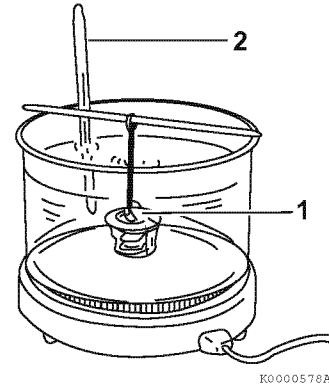

Figure 8-10
1. Check for proper operation of the thermostat. Place the thermostat (Figure 8-10, (1)) and an accurate thermometer (Figure 8-10, (2)) in warm water.